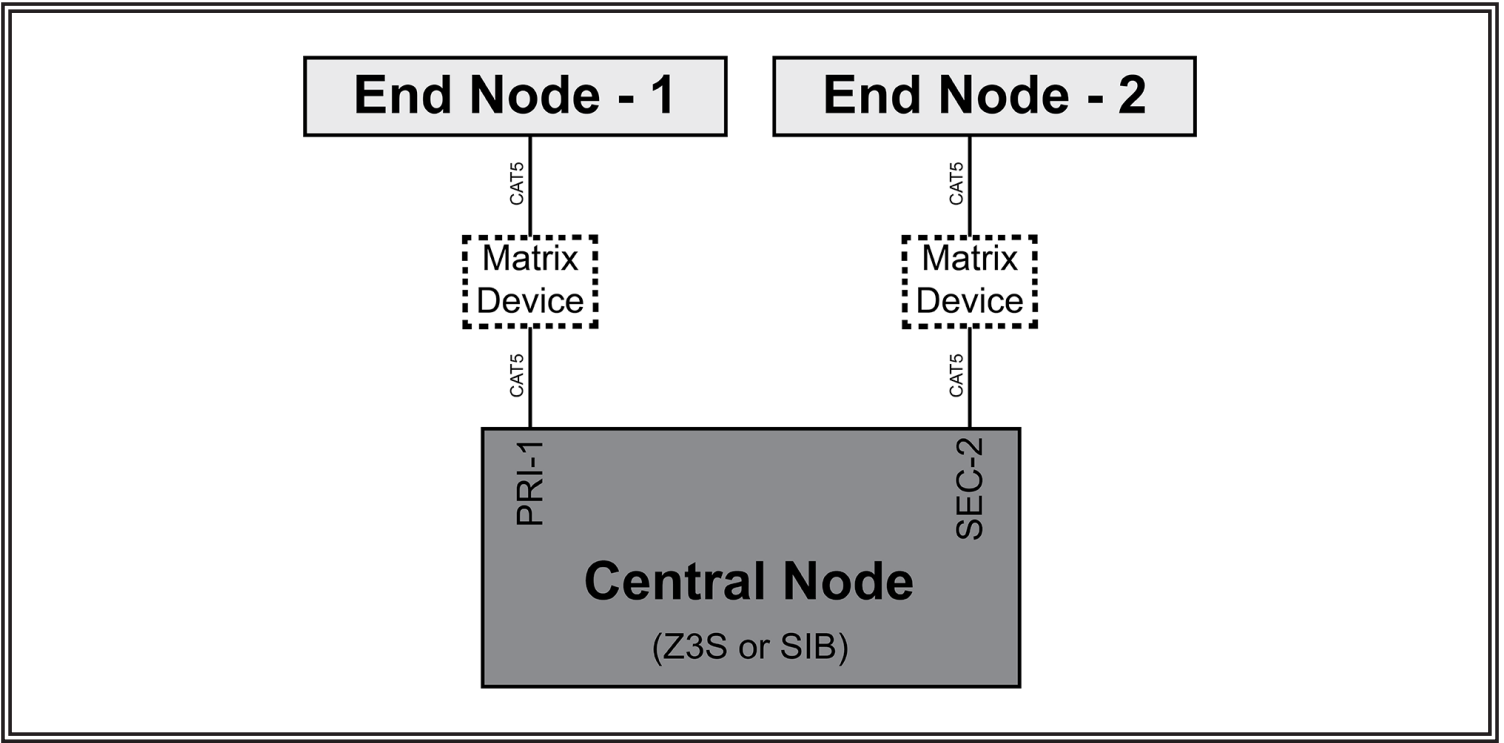

Figure 1
The Matrix network is designed to conveniently accommodate a large number of devices connected with CAT5 cables. The Central Node, such as a Z3 Siren or SIB, will always have (2) ports available. These (2) ports can connect to any (2) end nodes, as well as any future “daisy chain” compatible nodes in line. An End Node is simply any Matrix compatible device with only (1) CAT5 connection. Examples include the Matrix-enabled light bar, SuperVisor, WingMan, Citadel, etc. Please note, for CAT5 connections the PRI-1 port must always be utilized first, before additional devices can be connected to the SEC-2 port. See Figure 1.